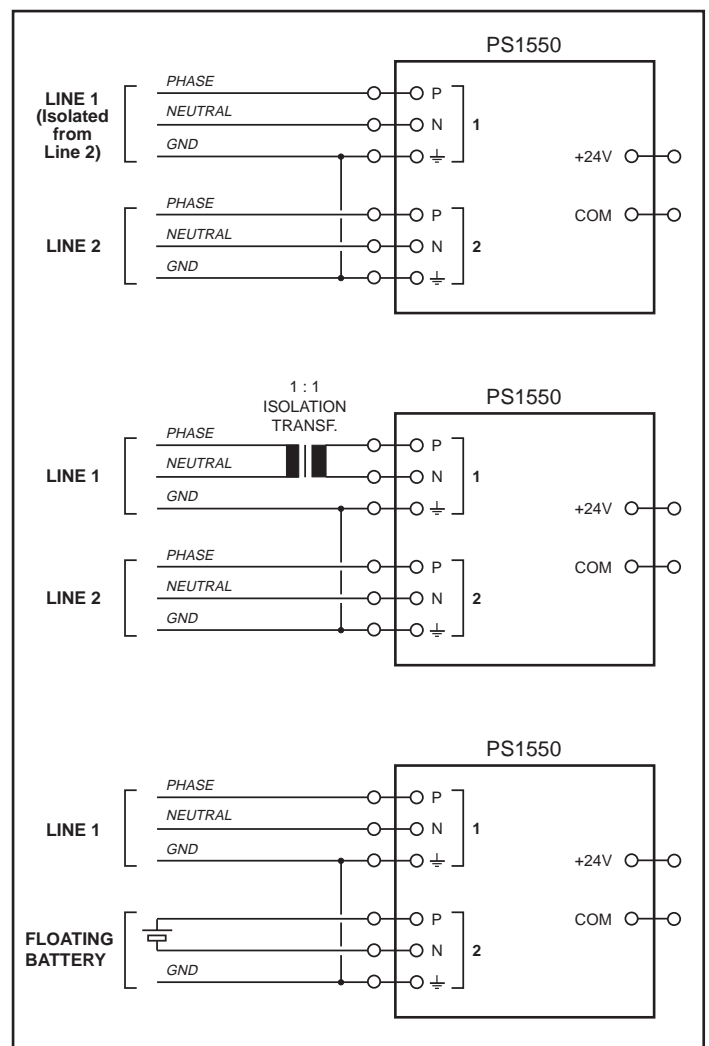

Fig. 9. Inputs connection.
- D. **Important:** when the system is powered by two lines, the lines must be isolated from each other (no common points) or an isolation transformer must be inserted in series suitable for one of the two lines (see fig. 9).